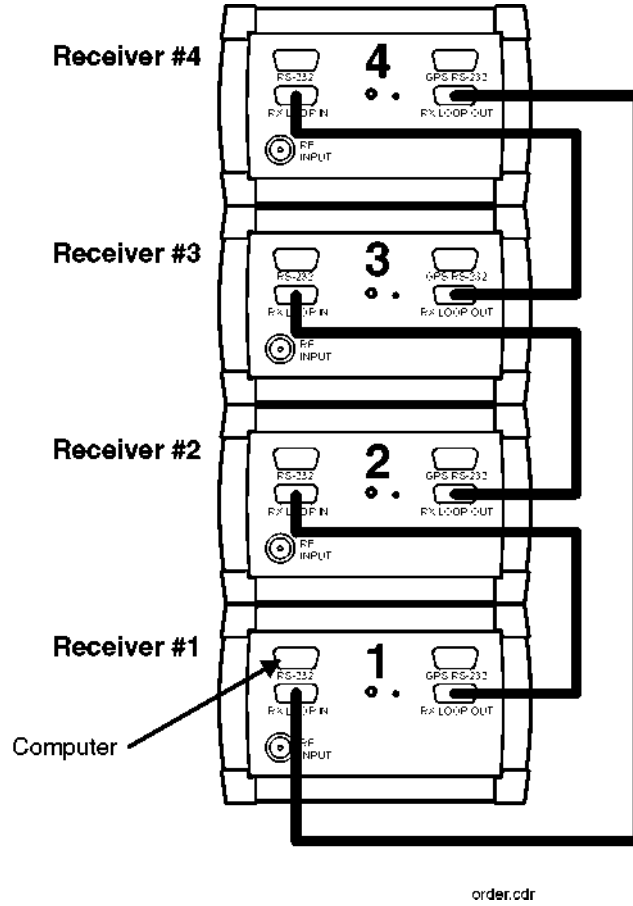

Figure 2-25 Positioning a Series of Receivers
1. Begin by connecting the receivers to each other using the illustrations shown in Figure 2-24 on page 2-76 and Figure 2-25 on page 2-80 to guide you. Decide which receiver will act as the master receiver, the receiver to
The position of a particular receiver in a chain of receivers is determined by its proximity in the chain to the master receiver (the receiver connected directly to the computer). The connection is made from RX LOOP OUT on one receiver to RX LOOP IN on the next in the chain. Therefore, the receiver that is connected to the master receiver’s RX LOOP OUT becomes the second module in the chain. The third module is the one connected to the second one’s RX LOOP OUT, and so on. Figure 2-25 on page 2-80 illustrates how the receivers are configured and numbered by the system.